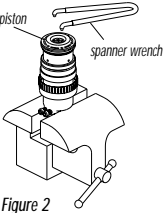
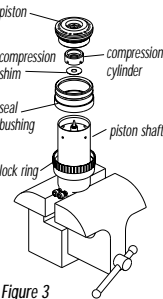
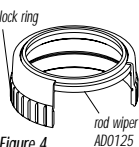

Figure 2
Figure 3
Figure 4
4. Clamp the piston shaft eyelet in the vice, and use a spanner wrench to unscrew and remove the piston (Figure 2). Be careful not to lose the compression cylinder and compression shim (Figure 3).
5. Now remove the seal bushing from the piston shaft by sliding it off the open end of the shaft (Figure 3). The lock ring can also be removed and the rod wiper can be replaced (Figure 4).